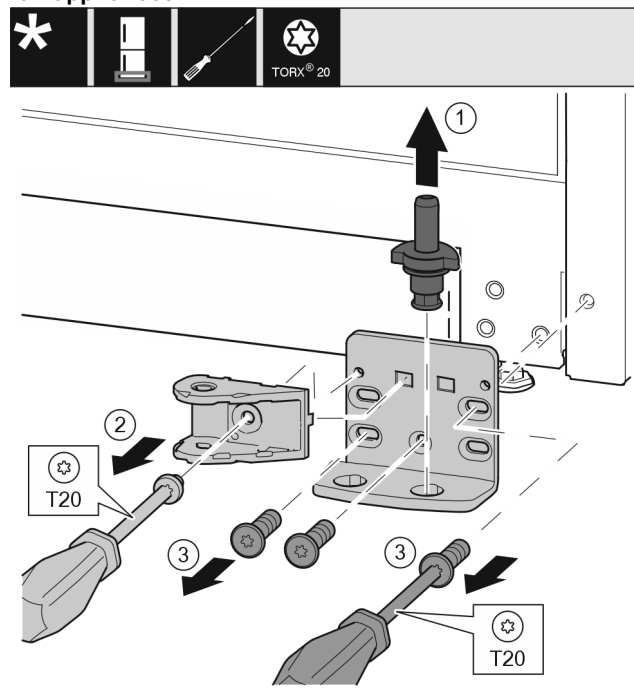

Fig. 34 *
- Lift the bearing pin completely upward and pull it out. Fig. 34 (1)*
- Take out the screw with a T20 screwdriver and take off the soft stop connection. Fig. 34 (2)*
- Take out the screws with a T20 screwdriver and take off the bearing bracket. Fig. 34 (3)*